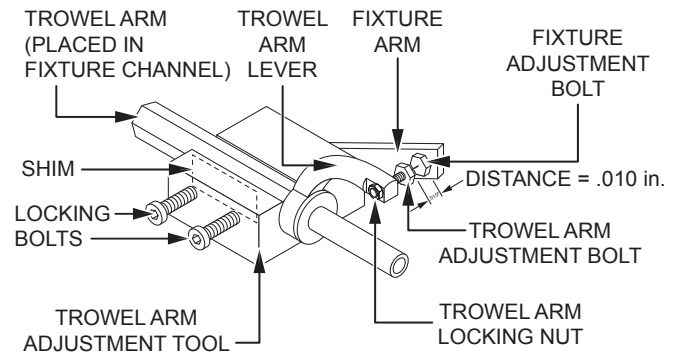

Figure 73. Trowel Arm Adjustment
1. Unscrew the locking bolts on the adjustment tool and place a trowel arm (with lever attached) into the fixture channel as shown in Figure 73.
3. A thin shim (Figure 73) may be required to cover the blade holes on the trowel arm. Be sure to align the trowel arm adjustment bolt with the fixture adjustment bolt.
4. Tighten the locking bolts (Figure 73) to secure the trowel arm in place.
5. Adjust the bolt distance shown in Figure 73 to match one of the arms. The other arms will be adjusted to match this distance.
6. Loosen the locking nut on the trowel arm lever, then turn the trowel arm adjusting bolt until it barely touches (.010") the fixture adjustment bolt. See Figure 73.